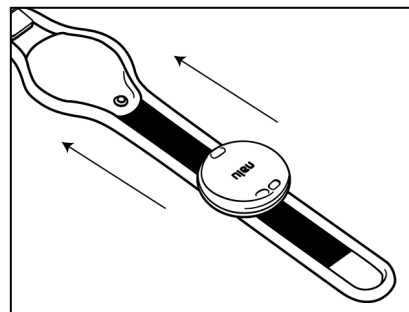

Figure 12 Insert Therapy Disc
2. Slide in the device with the “n” facing down, as shown in Figure 12.